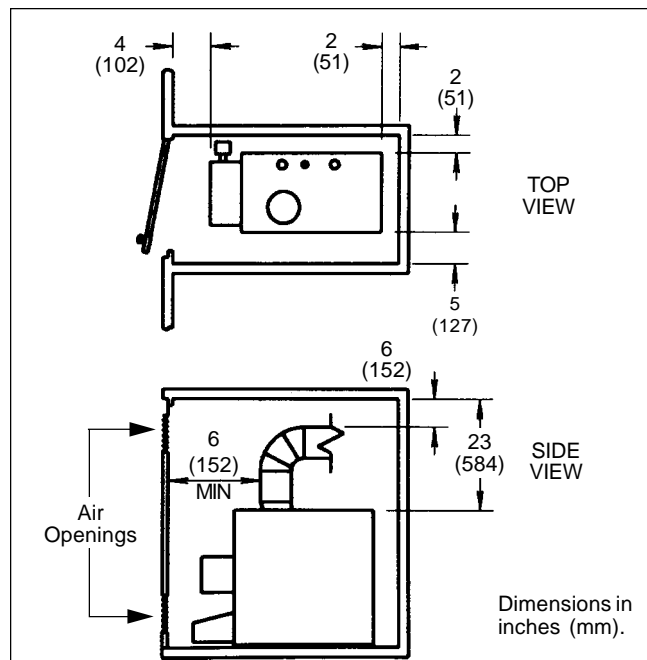

Figure 1. Closet Installation.
- The Model JVi-50 through JVi-225 boilers can be installed in a closet as long as the minimum clearances shown in Table 4 are observed. Special attention should be paid to clearances between the front of the boiler and the closet door when it is closed (see Figure 1).